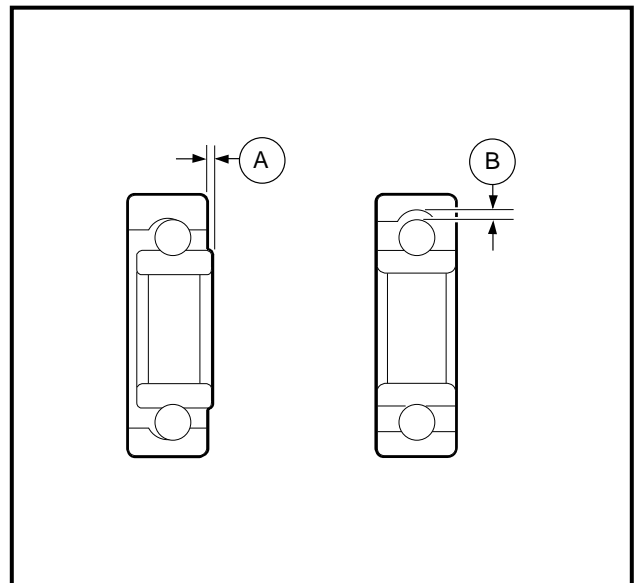

Figure 16-59 Inspect Bearings
2. Inspect all bearings by spinning them by hand. Check the bearings for excessive axial (A) and radial (B) play (**Figure 16-59, Page 16-25**). Replace bearings if they do not spin smoothly, if they are noisy, or if they have excessive play. Replace bearings if they are rusted, worn, cracked, pitted, or discolored.